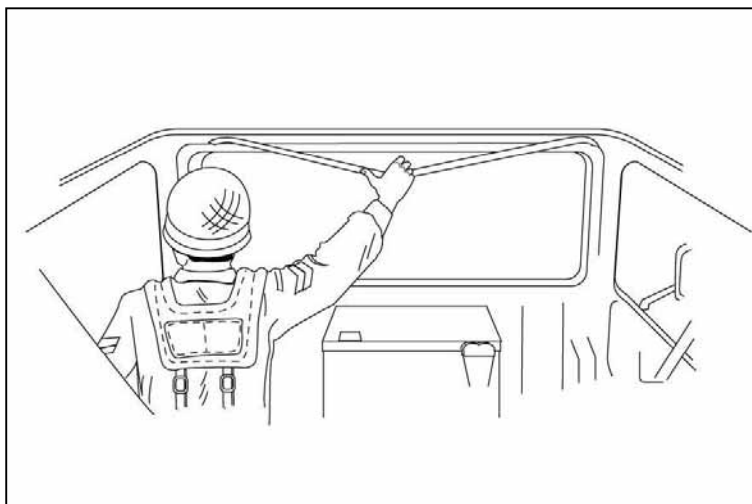

Figure 3-3-6: Lowering the Windshield Frame
- (2) pull on the cord thereby activating the release of the windshield frame latches (see Figure 3-3-6);
- (3) push out on the frame as far as possible, release and let fall under control;